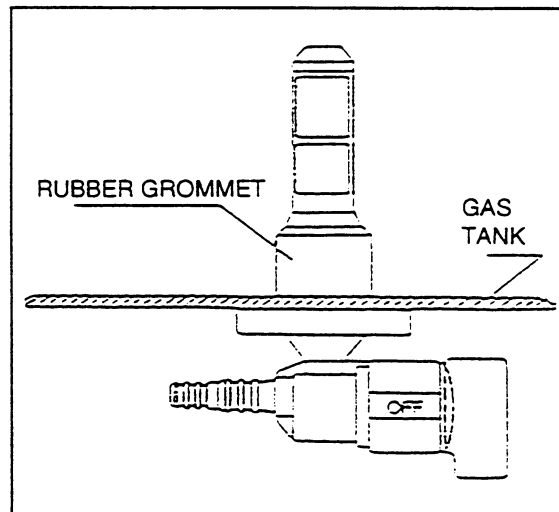

FIGURE 2
**CORRECTIVE ACTION:** If you encounter this situation on any unit, a new tank assembly (88325) should be installed. Order the parts through your regular source of supply (Figure 2 shows properly installed fuel shut-off valve).